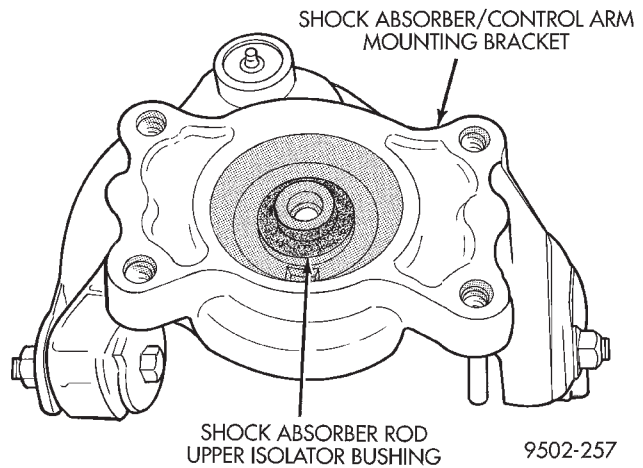

Fig. 22 Shock Absorber Rod Upper Isolator Bushing
(16) Remove the shock absorber rod upper isolator bushing (Fig. 22) from the shock absorber/upper control arm mounting bracket.
(4) Install the upper isolator bushing (Fig. 22) on the shock absorber/upper control arm mounting bracket.